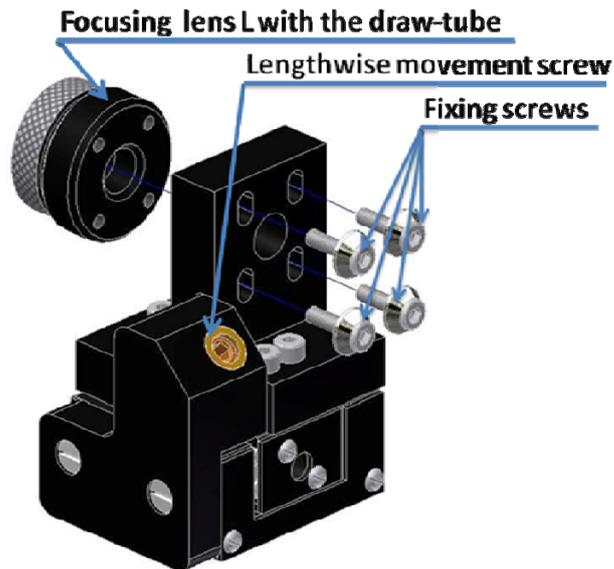

Fig. 9 Lens mount
9. Remove focusing lens L with the draw-tube from mount (**Fig. 9**).
- If the centers do not coincide then loosen, but do not remove, fixing screws (**Fig. 9**). Align the position of the lens with the draw-tube and then fix the screws.